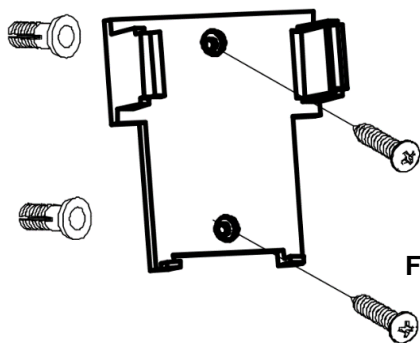

Fig. 14a
- Locate a suitable wall to fix the remote control holder with the 2 screws & 2 anchors. (Fig.14a).